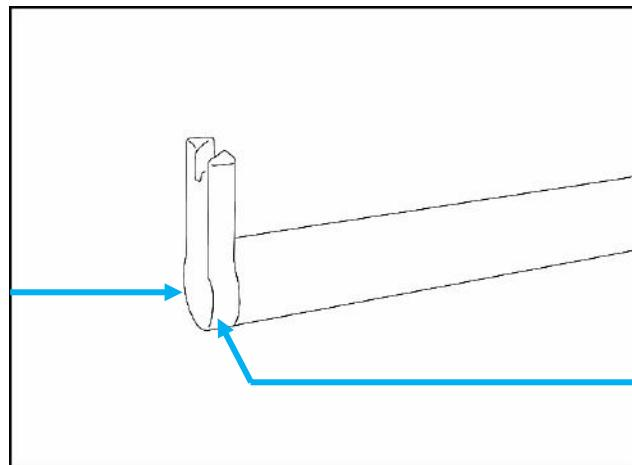

Figure 8: Catheter Guide Removal - Step 1
1. Grasp the rounded section of the catheter guide with your thumb and forefinger as shown in Figure 8.